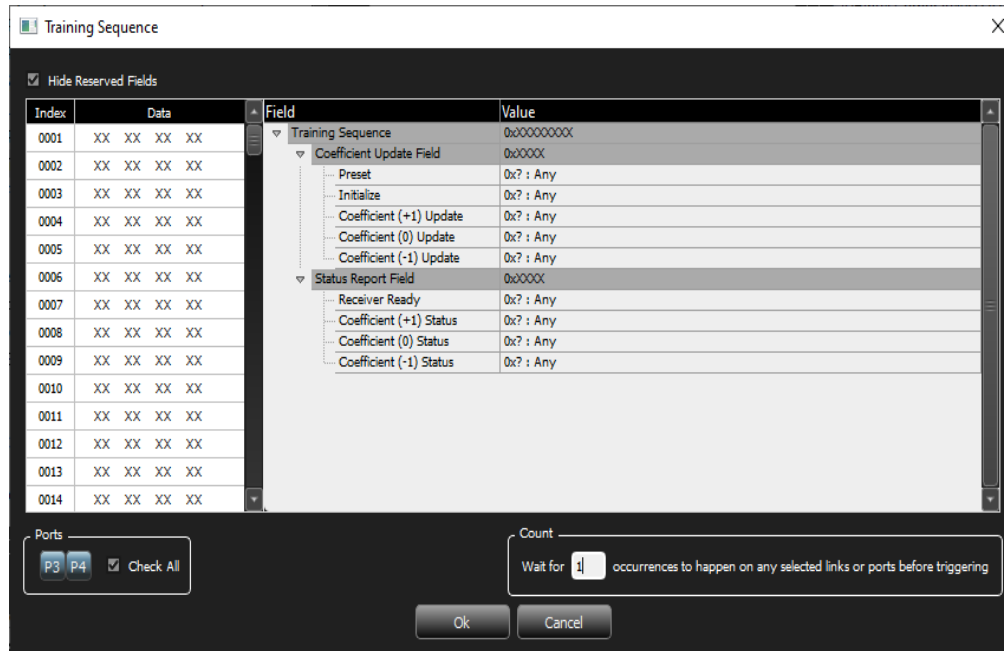

Figure 4.108: Training Sequence Window
1. Double-click **Training Sequence** to open the Training Sequence window (Figure 4.108).